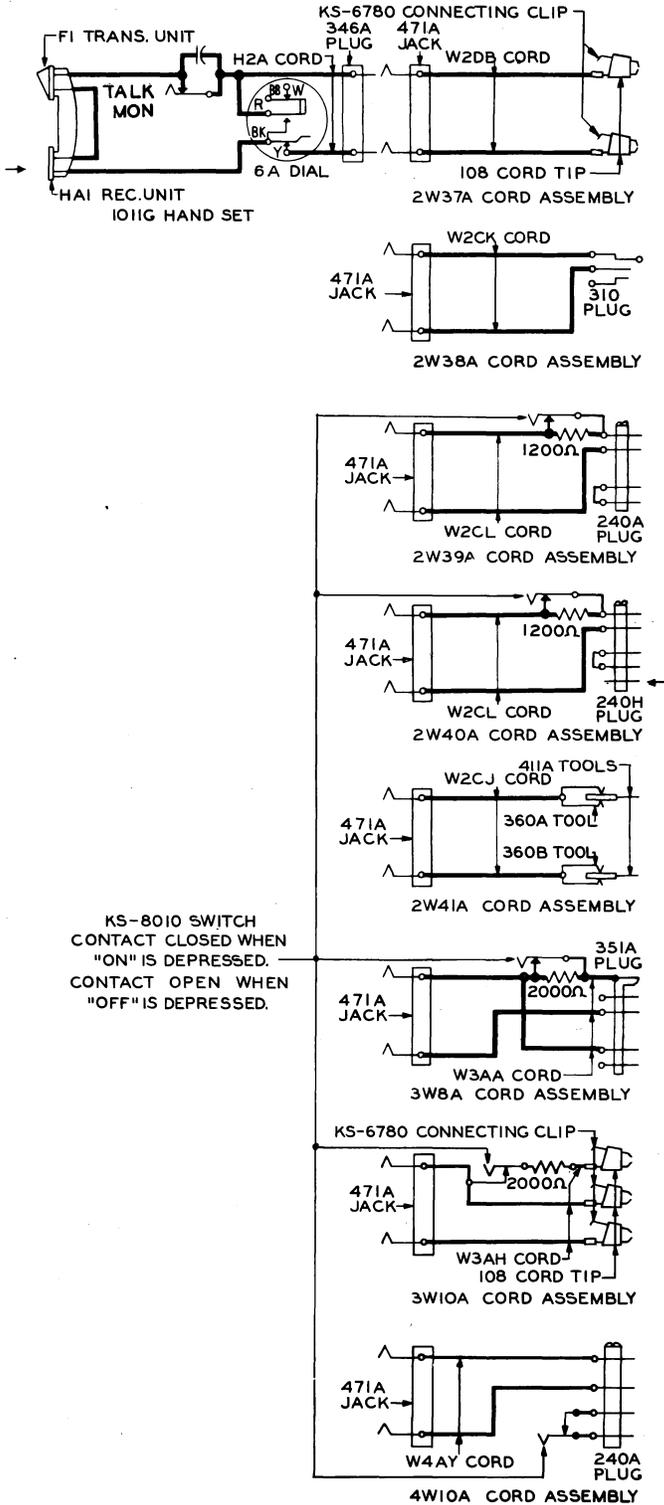

Fig. 9 - Schematics of No. 1011G Hand Set and Its Associated Cord Assemblies
3.06 The No. 1011G hand set and its associated cord assemblies as shown in Fig. 9 replace all other hand sets previously covered in this section. This hand set, when associated with the 2W40A cord assembly, may be used in place of the No. 1011E hand set and when associated with the 3W8A cord assembly, may be used in place of the No. 1011F hand set.
4. To revise the schematics of the No. 240H plug and to replace the No. 5JB dial with the No. 6A dial (Fig. 9).